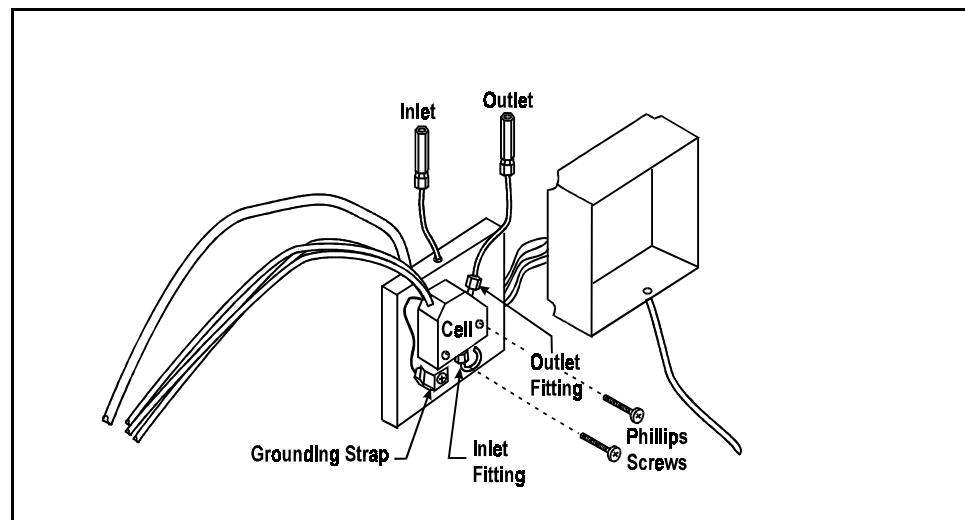

Figure 4-2. DS4 Interior Components
7. Remove the four Phillips screws securing the top of the box to its bottom plate. Carefully separate the two parts, exposing the cell (see Figure 4-2). Lay the top aside, being careful not to pull or stress the group of wires that connect the two parts.